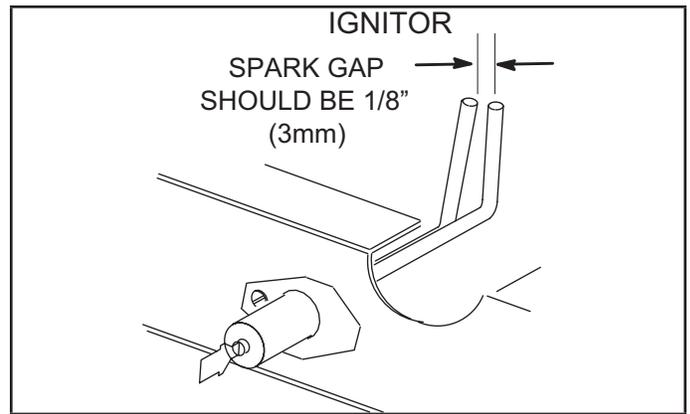

FIGURE 30
- 5 - Locate the ignitor under the right burner. Check ignitor spark gap with appropriately sized twist drills or feeler gauges. See FIGURE 30.